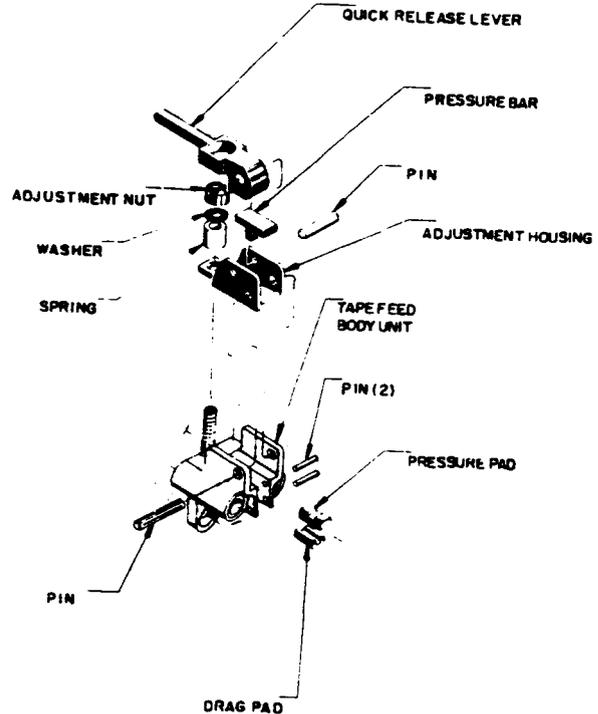

FIG. 11 PAD ASSEMBLY
5.43 Once a month (minimum), or as often as required, the drag and pressure pads should be cleaned using the following procedure (air line disconnected). (Refer to FIG. 11).